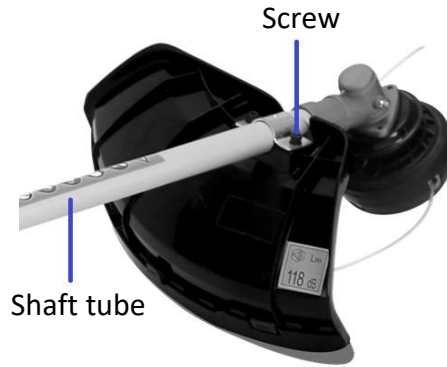

Fig. 3
- Mount the protection guard (3) onto the shaft tube with the screws provided, as illustrated in Fig. 3.